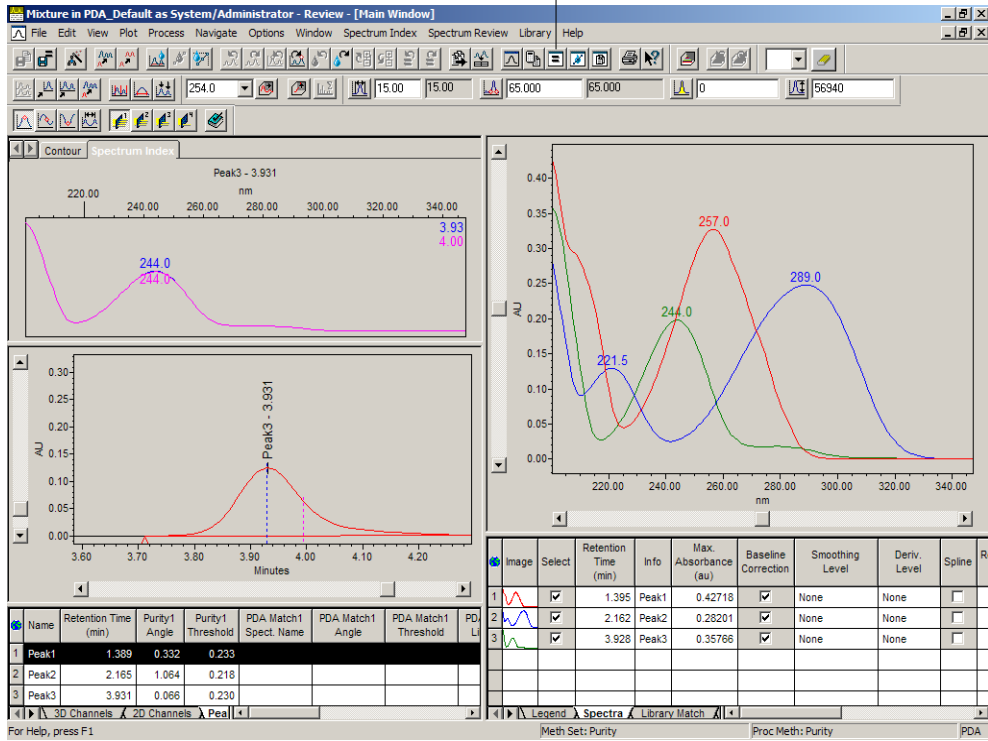

Figure 3-27 Maximum Impurity Spectrum with Peak 3 Spectra Zoomed
5. Scroll to the right and examine the spectra from the third peak (Figure 3-27). The spectra overlay well.
1. Click  (Results) or select **Window > Results Window** (Figure 3-27) to open the Results window (Figure 3-28). If necessary, maximize the Results window or size the different panes by dragging the split bars.